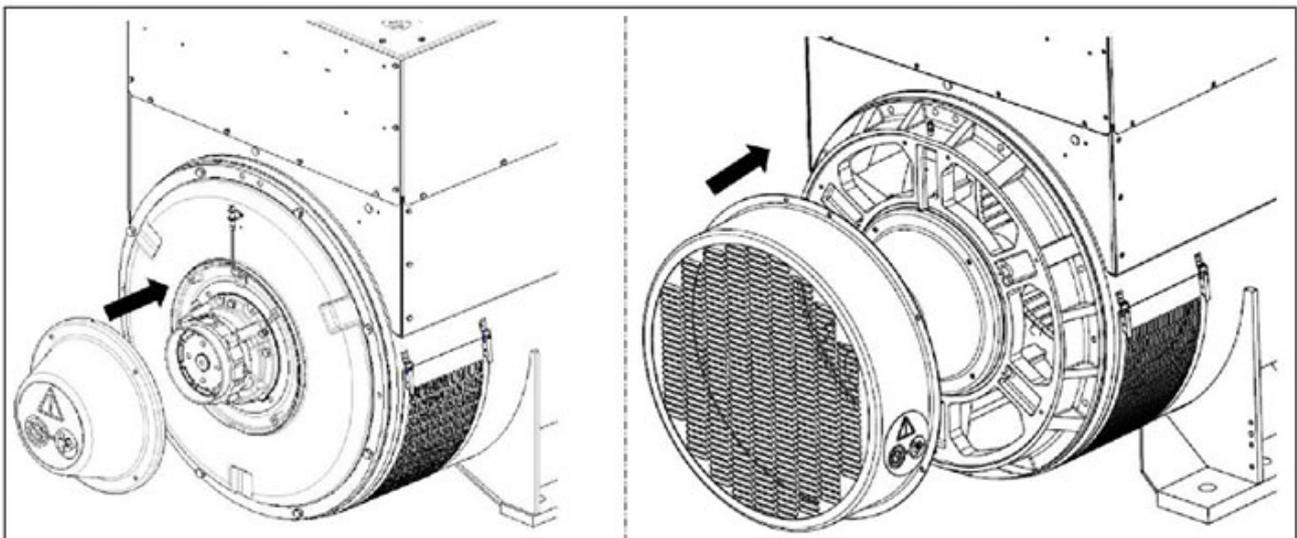

FIGURE 18. ROTOR TRANSIT SUPPORT COVER REMOVAL AND FITTING INSTRUCTIONS
1. Remove all covers required to gain access to the rotor transit support screws. Refer to: Figure 18 on page 31.
1. Remove all covers required to gain access to the rotor transit support blanking screws. Refer to: Figure 18 on page 31.